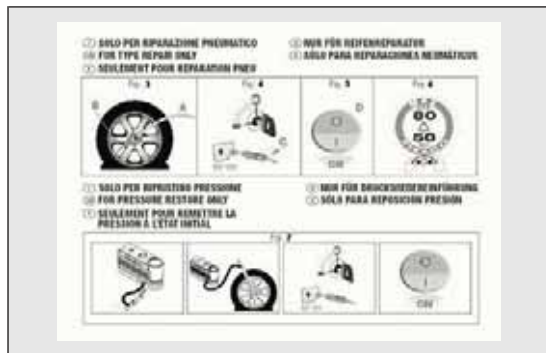

fig. 139
- ❑ an instruction leaflet fig. 139, to refer to for prompt and correct use and that must be then given to the personnel dealing with the tyre treated with sealant;